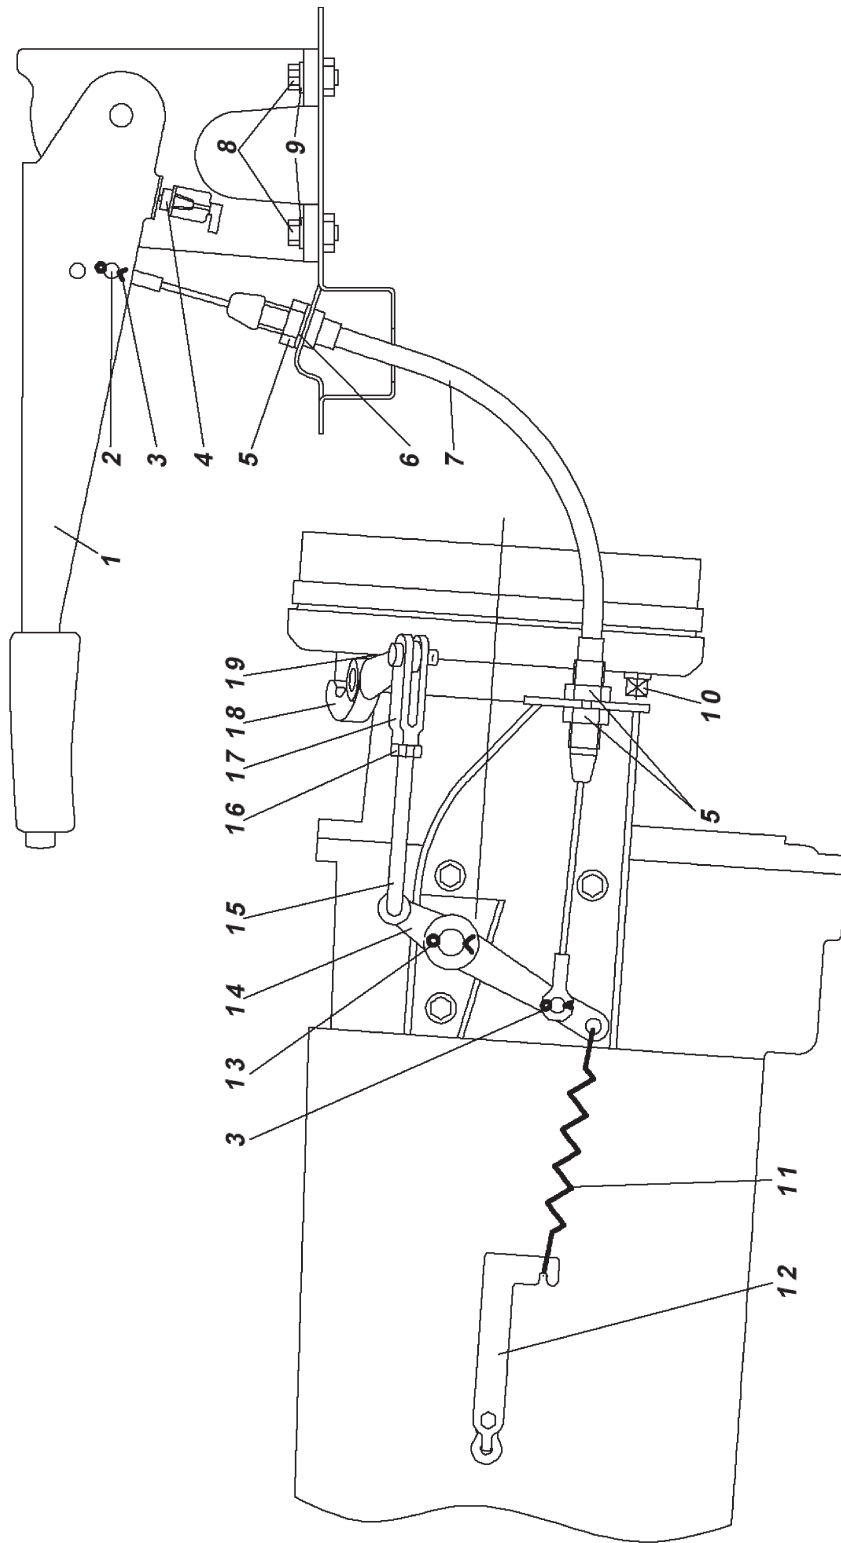

Fig. 9.39. Parking brake mechanism drive:
2. Lower parking brake lever 1 (fig. 9.39) into its extreme position.